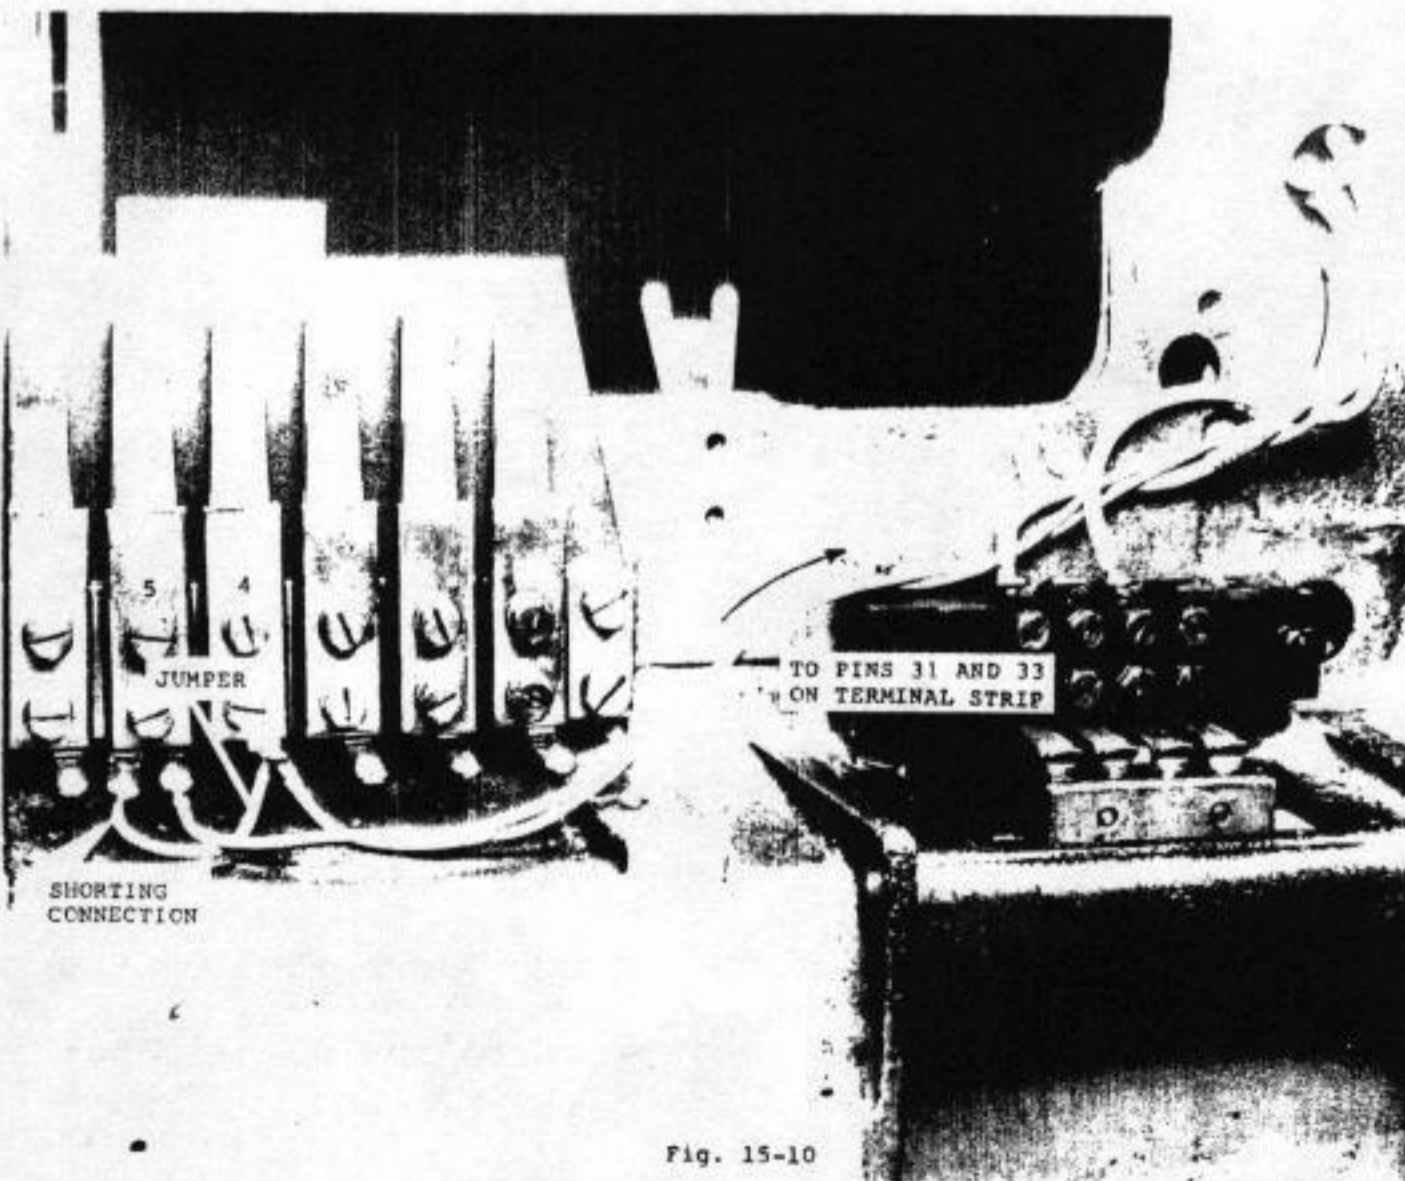

Fig. 15-10
- c) Run a wire from #5 slip contact to pin 33 on the terminal strip. This completes the keyboard connections in the base. (Fig. 15-10).